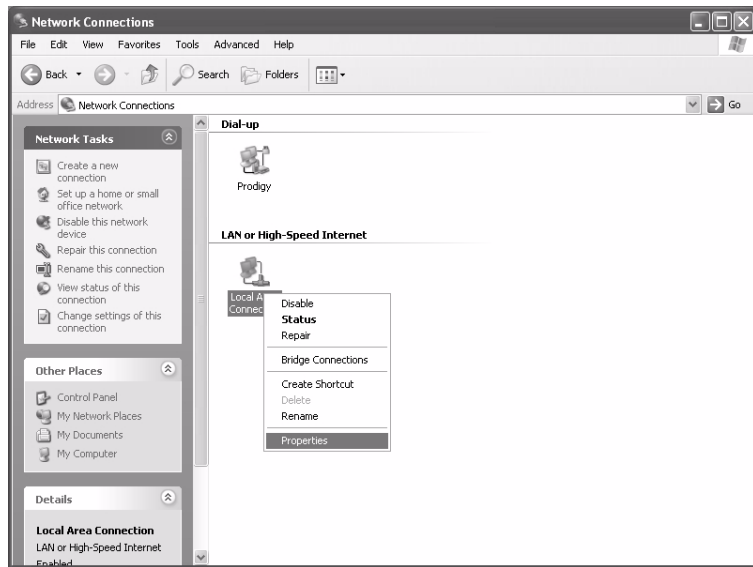

Figure 60: Network Connections - Windows XP
2. A list of network adapters appears as shown in Figure 60. The Local Area Connection icon must appear under the LAN or High-Speed Internet heading. If it does not, the network is not installed correctly.